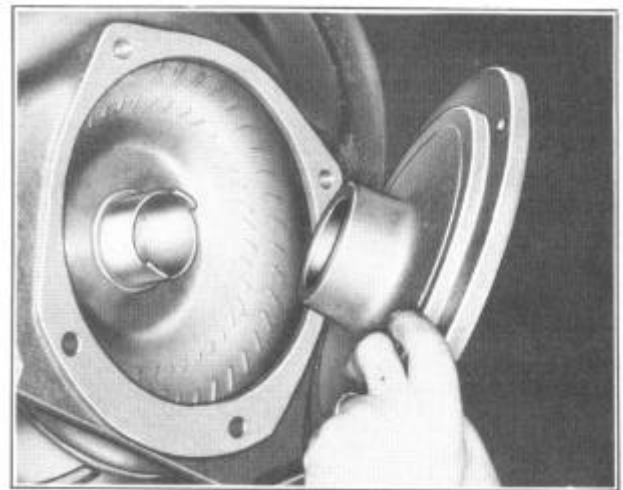

FIGURE 140
4. Position the Converter Aligning Flange J-4286 into the bore of the converter housing and over the converter hub (front pump drive fingers on the converter assembly), Figure 140.